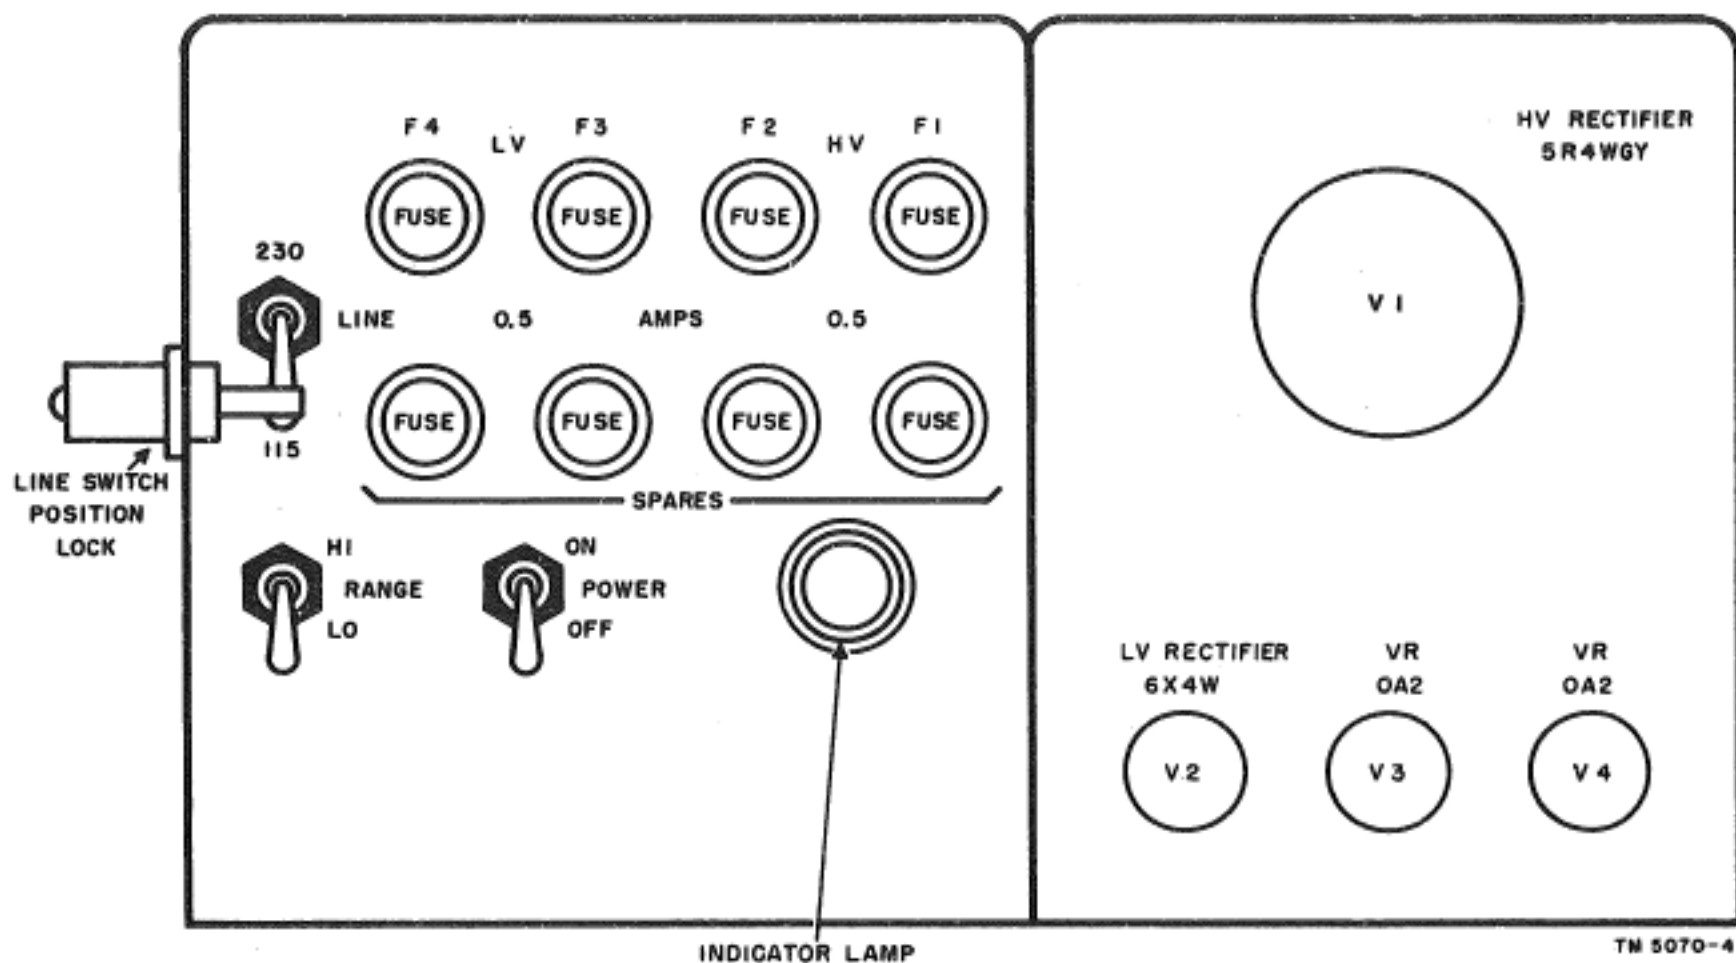
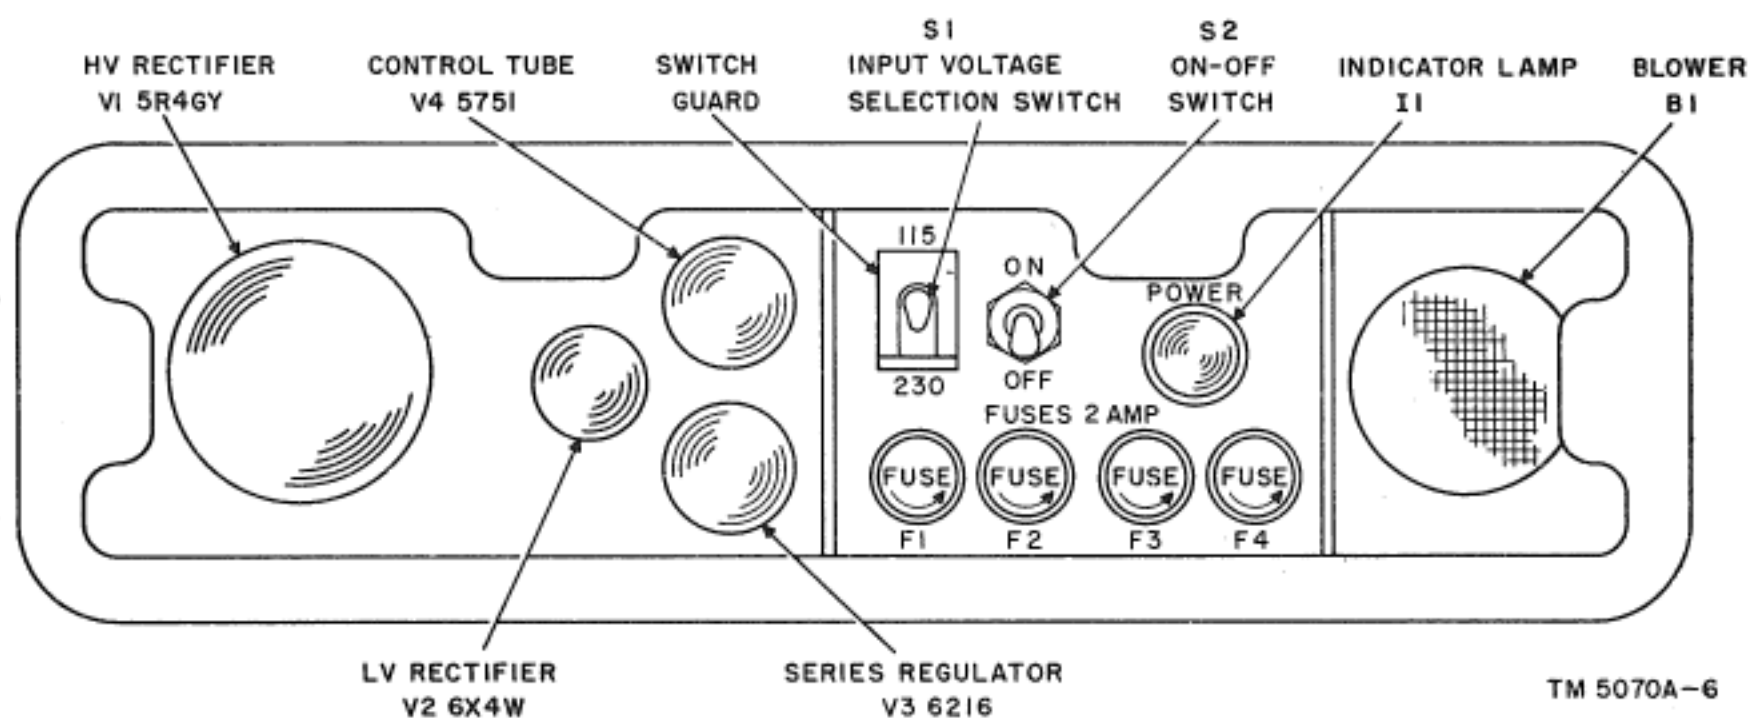

Figure 6. Power Supply PP-327/GRC-9Y, controls and tube location.
Figure 7. Power Supply PP-327A/GRC-9Y, controls and tube location.
*a. Tubes.* The power supplies are shipped with all operating tubes installed in their sockets. Check to see that each tube is firmly seated. Tube locations for Power Supply PP-327/GRC-9Y are shown in figure 6. Figure 7 shows tube location for Power
*b. Fuses.* The location of all operating fuses is shown in figures 6 and 7. Check to see that all fuses are in operating condition and of the proper value. Power Supply PP-327/GRC-9Y uses .5-ampere fuses and Power Supply PP-327A/GRC-9Y uses 2-ampere fuses.
#### a. Power Supply PP-327/GRC-9Y (fig. 6).
#### b. Power Supply PP-327A/GRC-9Y (fig. 7).